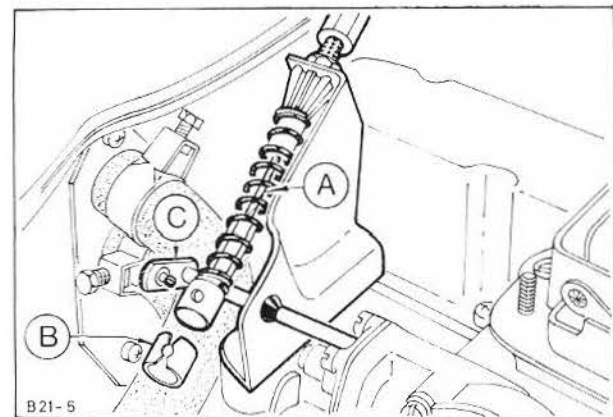

Fig. 14. Accelerator cable to throttle linkage fixing.
15. Attach throttle cable to bracket and hook cable into throttle linkage, Fig. 14. Reconnect and adjust choke cable, where fitted.